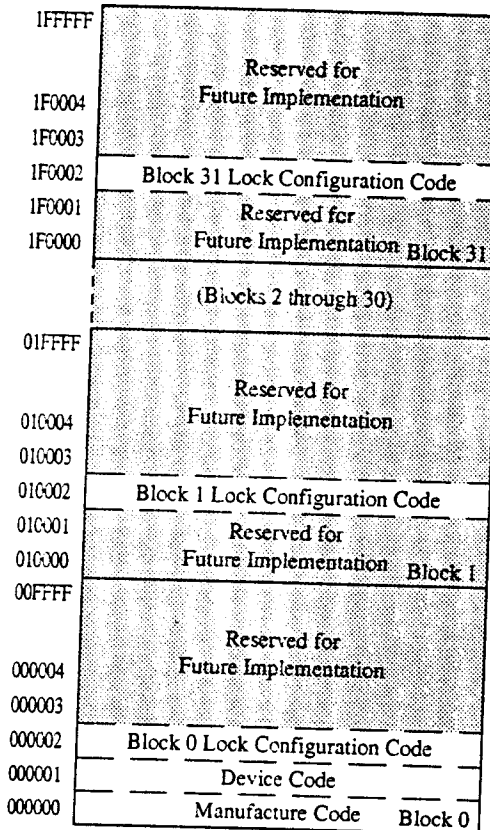

Figure 2. Device Identifier Code Memory Map
The read identifier codes operation outputs the manufacturer code (Block 0), device code (Block 0), and block lock configuration codes (for each block), see Figure 2. Using the manufacturer and device codes, the system CPU can automatically match the device with its proper algorithms. The block lock codes identify locked and unlocked blocks.
IA = Identifier Code Address: see Figure 2.
The host initiates the identifier code operation by writing the Read Identifier Codes command. Following the command write, read cycles from addresses shown in Figure 2 retrieve the manufacturer, device and block lock configuration codes (see Table 3 for identifier code data). To terminate the operation, write another valid command. Although Table 3 lists the device code as AAAA, other Sharp's Flash Memory Miniature Card could also have device codes A6A6 or A7A7. Host software should check for all three cases for compatibility with future cards.
1. × selects the specific block lock configuration code to be read. See Figure 2 for the device identifier code memory map.